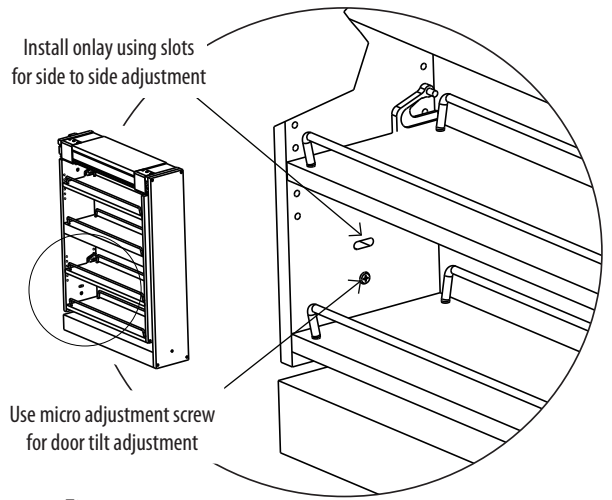

Fig 5
**Step 7.** Attach onlays or door panels. (not provided). (See Fig 5)